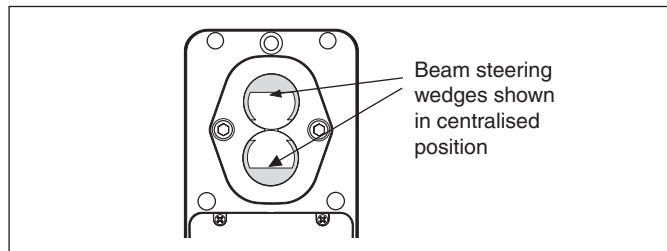

Figure 44 – Steering wedges in centralised position
1. Before inserting the barrel into the detector, centralise all four beam steerers so that the steering wedges appear as shown in Figure 44. Move the measurement mirror as close to the detector as possible.